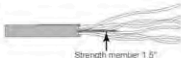

Figure 3
- e. Cut the strength member(s) 1.5" from the ring cut. (Fig. 3)